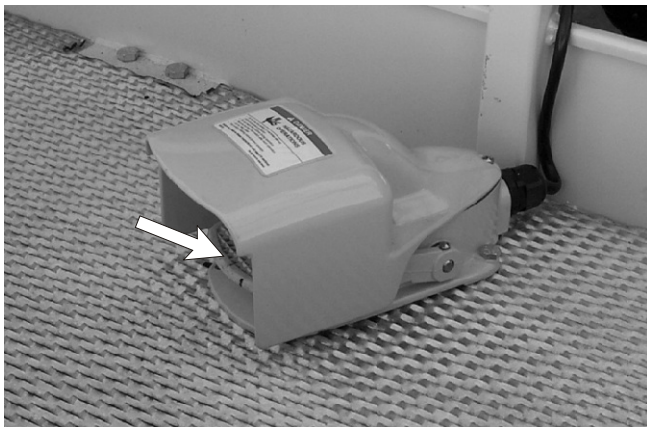

Figure 8.5—Platform Foot Switch
2. Step down on the platform foot switch (refer to Figure 8.5)